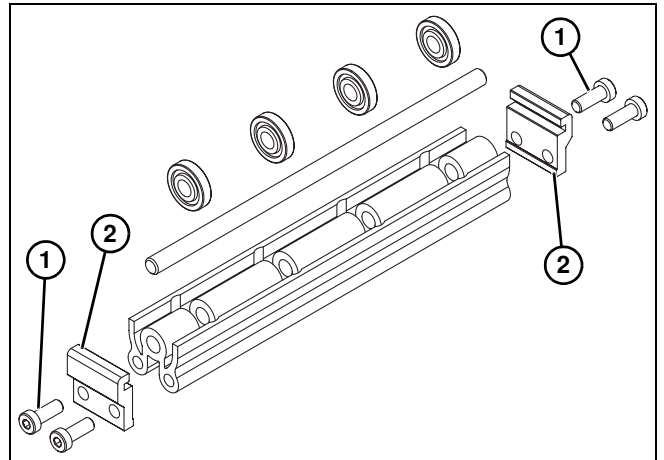

Figure 15
1. Locate return rollers. Exploded view shown in Figure 15.
2. Remove screws (**Figure 15, item 1**) and clips (**Figure 15, item 2**) from roller assembly.